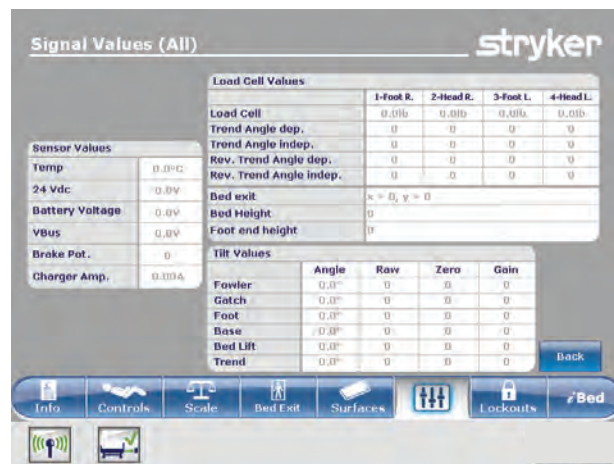

Figure 1-93: Signal Values
**Signal Values:** Lists all the sensors and their current signal values (Figure 1-93 on page 1-82).